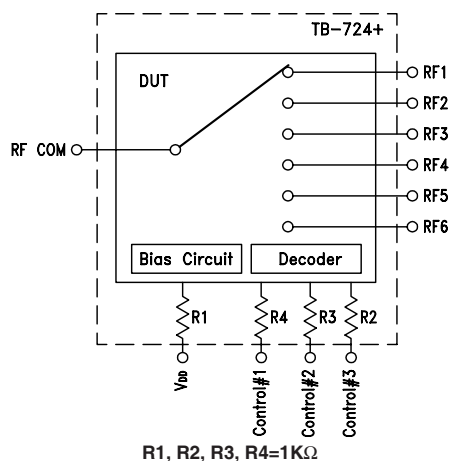

Figure 1: Block Diagram Of Test Circuit Used For Characterization. (DUT soldered on Mini-Circuits' TB-724+)
- As measured in Mini-Circuit's test board TB-724+ (see Characterization Test Circuit, Fig.1).